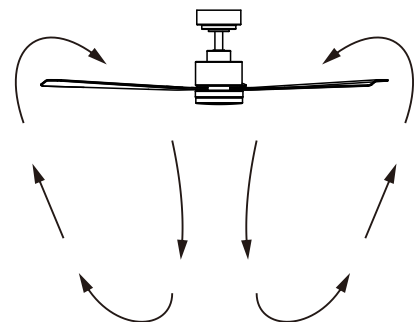

Figure 10
- Warm weather-(Forward) A downward airflow creates a cooling effect as shown in (Fig.10) This allows you to set your air conditioner on a warmer setting without affecting your comfort.